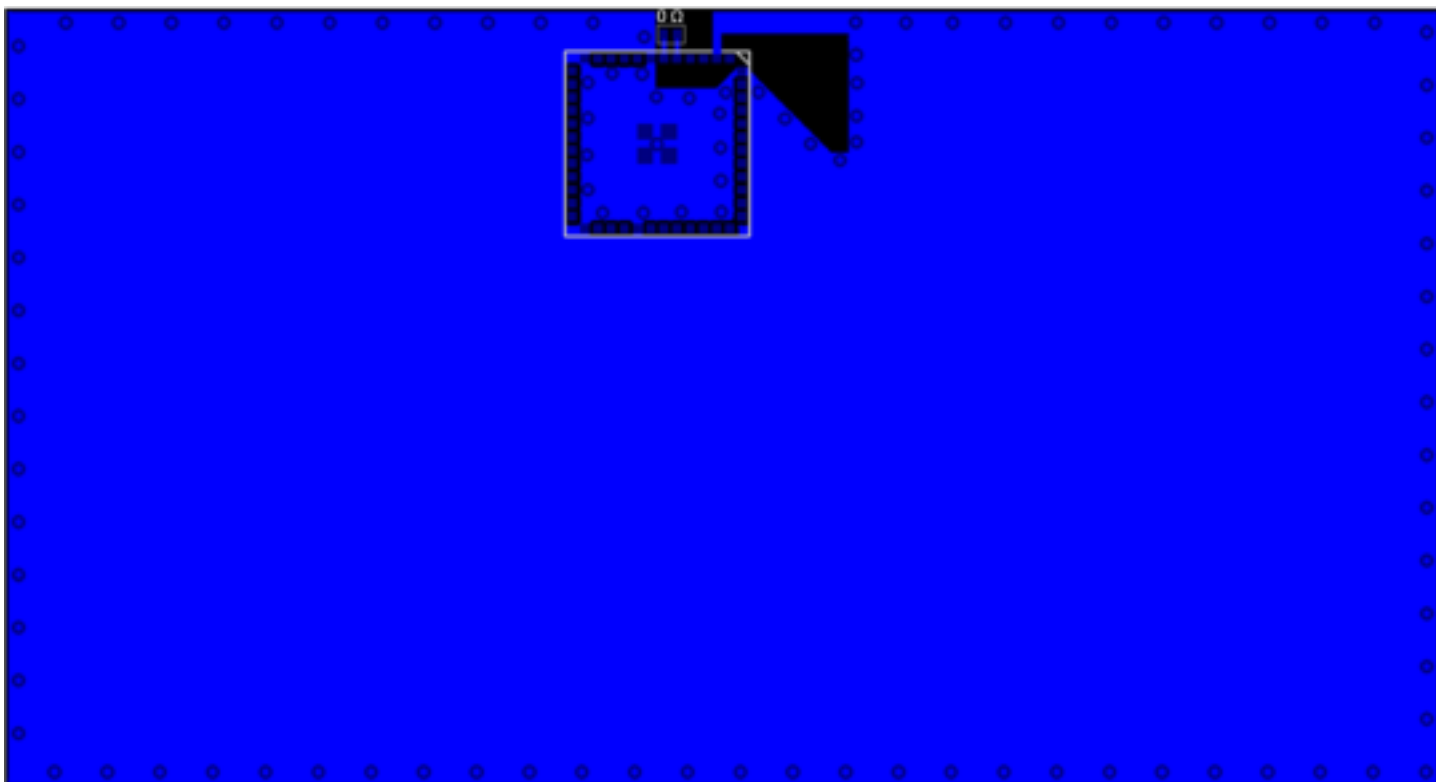

Figure 7.1. Recommended Layout for BGM241S (Integral Antenna)
- Place the module 1.50 mm from the edge of the copper “keep-in” area at the middle of the long edge of the application PCB, as illustrated in Figure 7.1 on page 37.